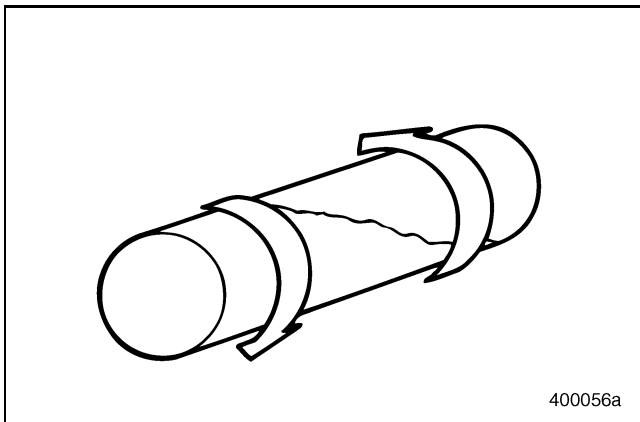

Figure 26 — Torsion
**Torsion** is a twisting force, like screw assembly torque. When a shaft breaks in torsional overload, the fracture may be helical (as shown in Figure 26 and Figure 67) or transverse (as shown in Figure 61). Cyclic torsional loads can cause torsional fatigue cracks, which may also be transverse, but more often start as lengthwise or helical cracks with beach marks.